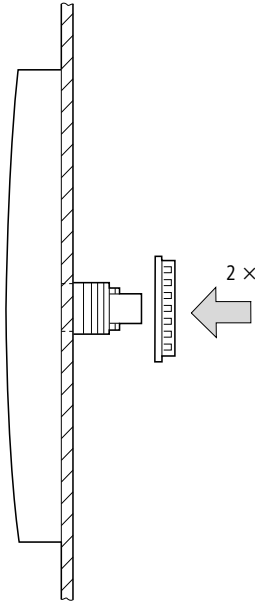

Figure 13: Screw fastening the display module
- ▶ Screw on the display module as shown in (→ figure 13).